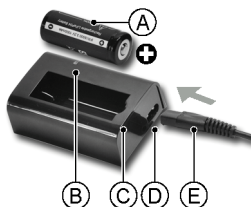

Figure 3: Charging the clipper battery on the charging base.
2. Insert the battery to be charged (Figure 3, A) in the charging base (Figure 3, C), making sure the + terminal is placed the right way round.
3. Insert the power pack connector (Figure 3, E) in the socket (Figure 3, D) on the charging base.
5. The red indicator light (Figure 3, B) on the charging base comes on steadily during the charging cycle.
6. The charging cycle is switched off automatically. The indicator light (Figure 3, B) goes out on completion of the charging cycle. The battery autonomy period is then 90 minutes for a new battery.